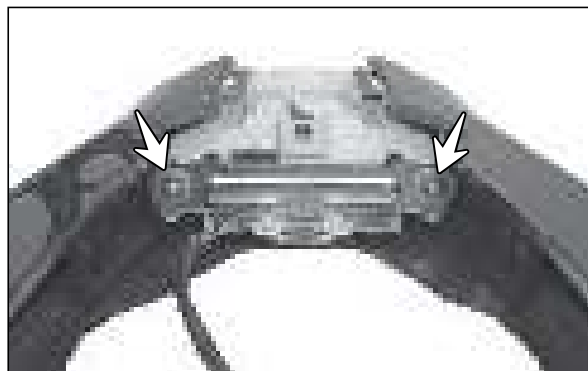

Fig. 5.84
- Remove the hexagonal flange nut (M6 - 2 Nos.). (Fig. 5.84)